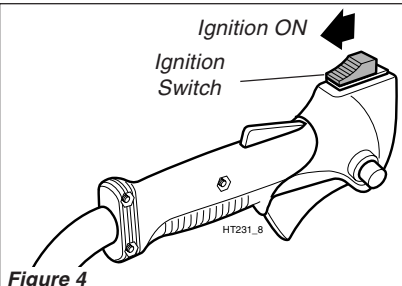

Figure 4
1. Move the ignition stop switch to the right (towards the grip) to the "I" or ON position. See Figure 4.